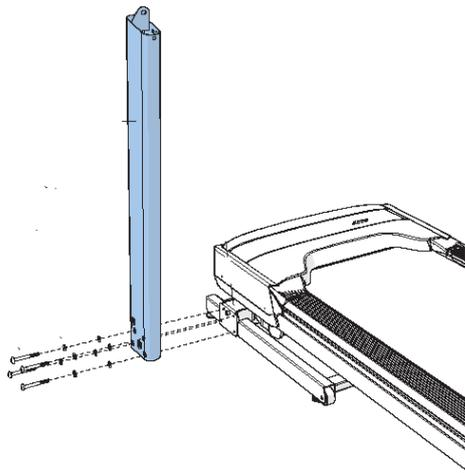
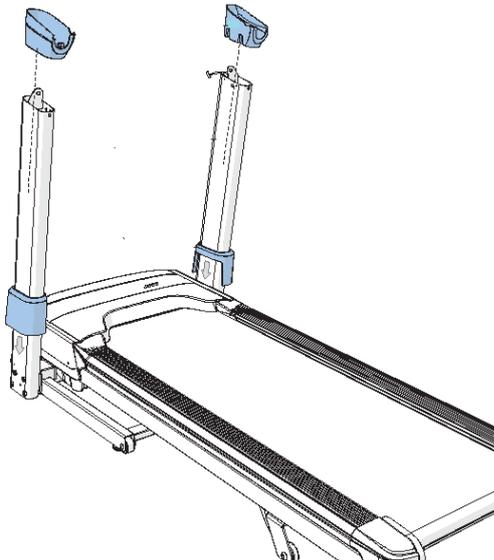

Fig1
Fig3
- 4.Reverse steps to replace and assemble console mast.(Fig1)&(Fig2)&(Fig3)